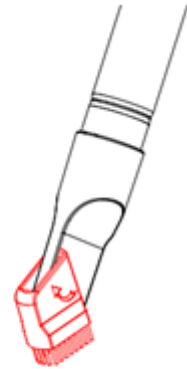

Fig. 11
2. As in fig.11, open the other side with bristles of the compressed brush as the mark of an arrow to clean the sofa, the curtain and the dust on the ornaments.